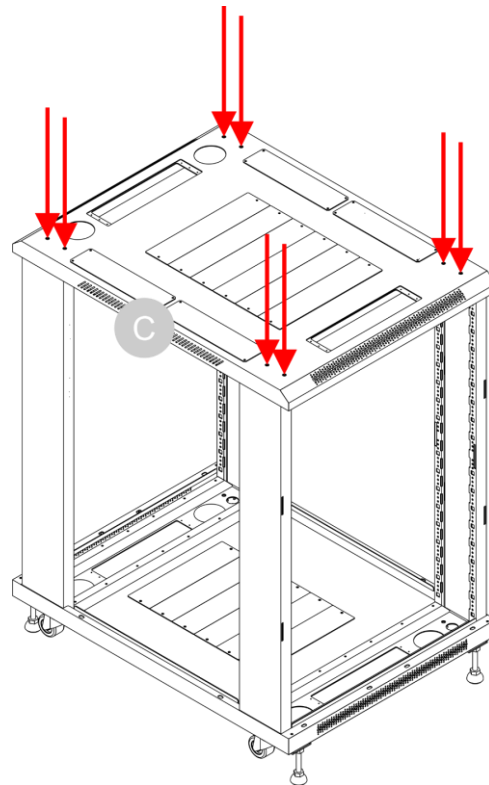

Fig. 28
- 12) Attach the 4 corners of the **top plate (C)** to the 2 **frames (B)** with 4 x 2 **screws (N)**, as shown in Fig. 28.